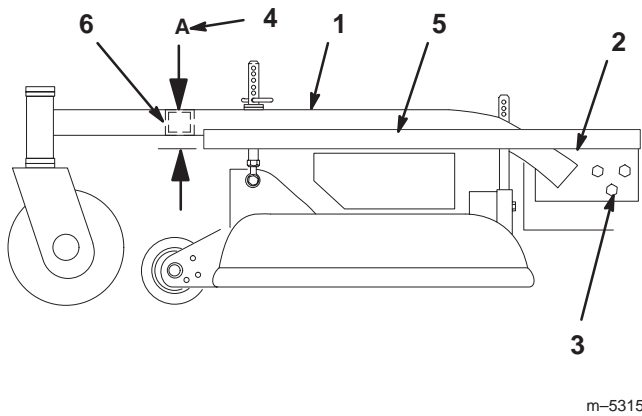

Figure 44
2. Place a long straight edge on top of the engine deck as shown in figure 44.
3. At the carrier frame cross tube, measure location “A” height (Fig. 44). This measurement must be 2–13/16 in., plus or minus a 1/4 in.
5. Loosen the carrier frame mounting bolts on both sides of the machine (Fig. 44).
6. Align the carrier frame and engine deck to match 2–13/16 in., plus or minus a 1/4 in. at location “A” (Fig. 44).